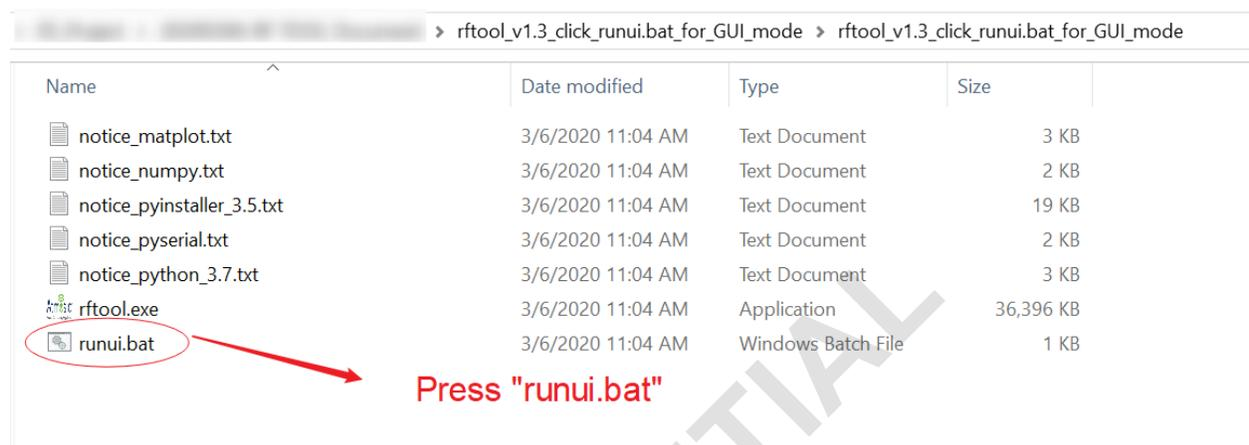

Figure 2 - “runui.bat” File in RF Tool Folder
- Figure 2 - “runui.bat” File in RF Tool Folder
- There is a “runui.bat” file inside the folder. Double click to execute after the DUT is powered on properly as Figure 2.